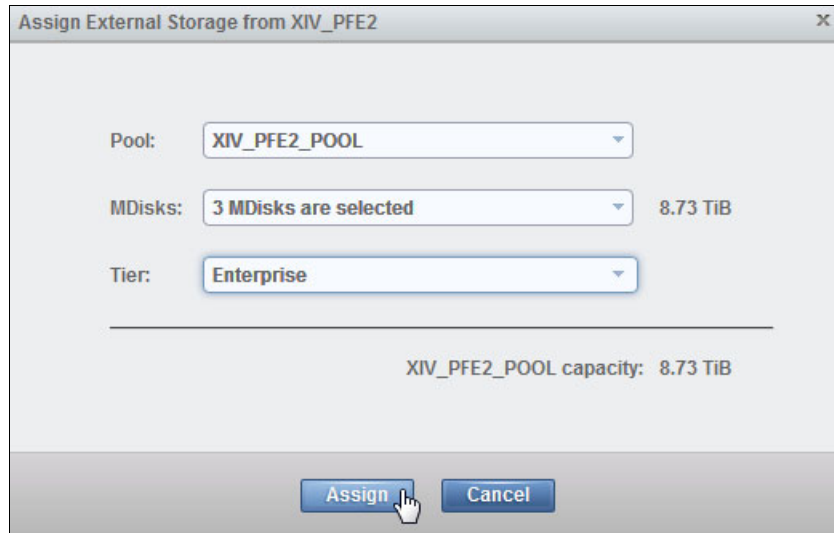

Figure 2-19 Assigning MDisks
5. Select the Pool, MDisks, and Tier for the MDisks and click **Assign**, as shown in Figure 2-19.